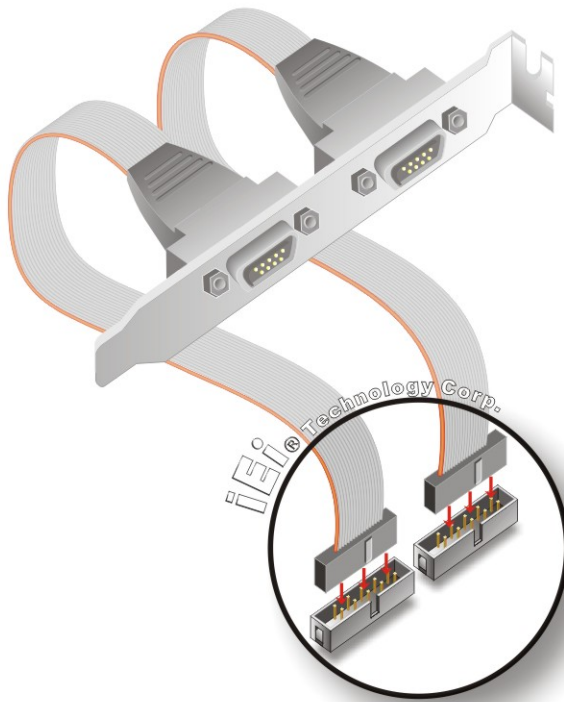

Figure 5-11: Dual RS-232 Cable Installation
Step 2: Insert the cable connector. Insert the connectors into the serial port box headers. See **Figure 5-11**. A key on the front of the cable connectors ensures the connectors can only be installed in one direction.
Step 2: Insert the cable connector. Insert the connector into the serial port box header. See Figure 5-11. A key on the front of the cable connectors ensures the connector can only be installed in one direction.